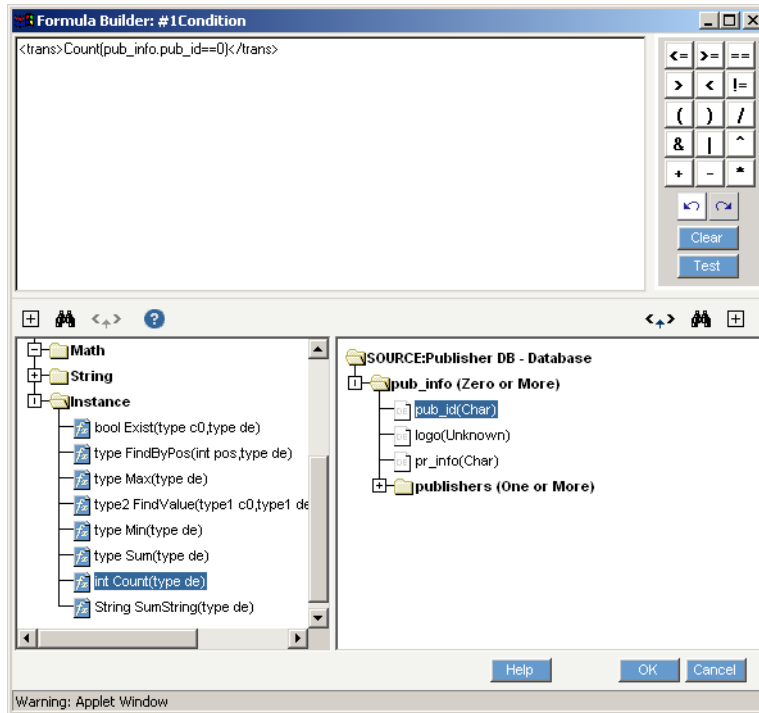

Figure 20-4. The Formula Builder can be used to configure your condition.
- 3 Create the expression that is appropriate for your condition with a combination of formulas, values of source data elements, and mathematical operators (see Figure 20-4 below).